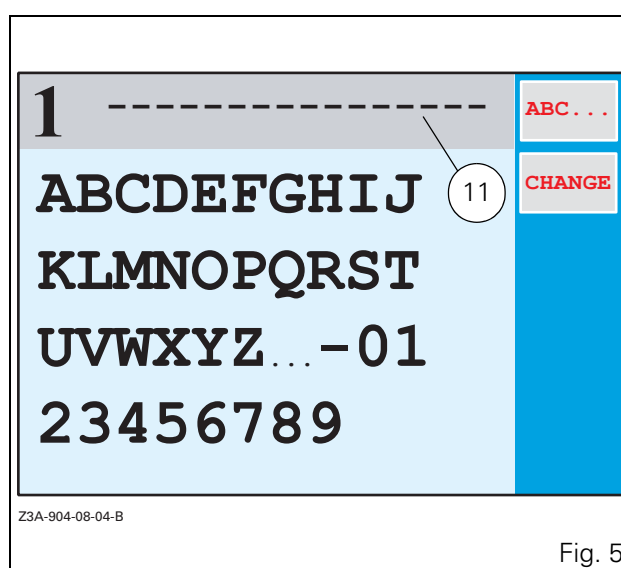
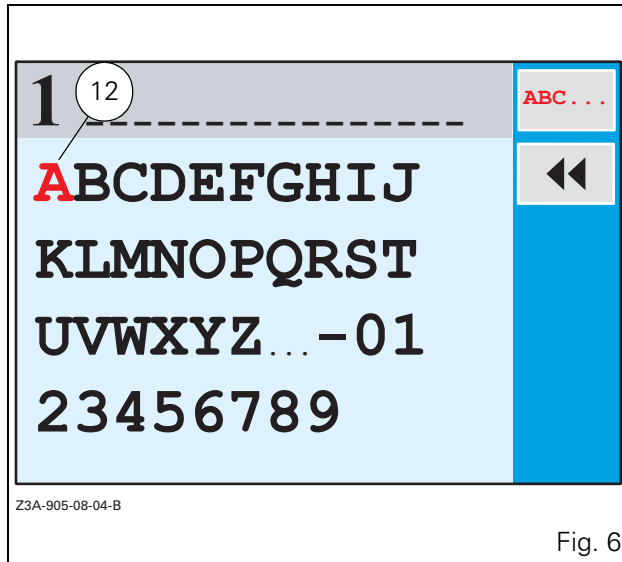
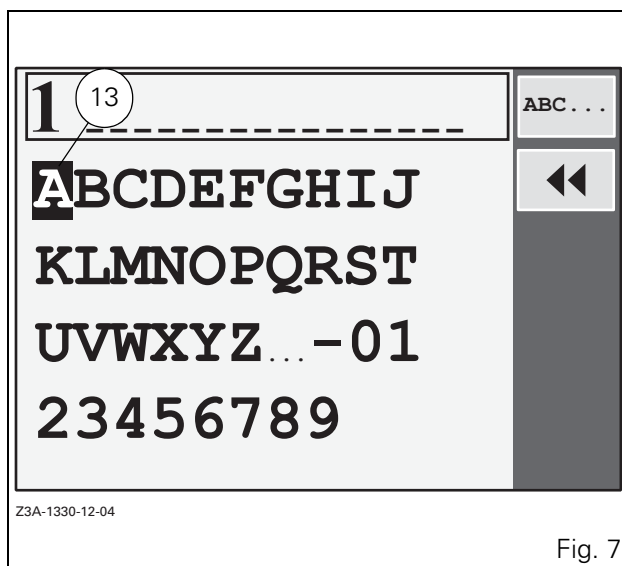

Fig. 5
Fig. 6
Fig. 7
When the window (Fig. 5) is open, press the key «1» to display the first memory menu. The window (Fig. 6) is displayed.
NOTE: If no implement name has been saved, a sequence of hyphens is displayed (11 Fig. 5).
- Press the key «₁. The displayed name is erased and the first letter of the alphabet is displayed in red (colour screens) (12 Fig. 6) or reverse video (b/w screens) (13 Fig. 7).